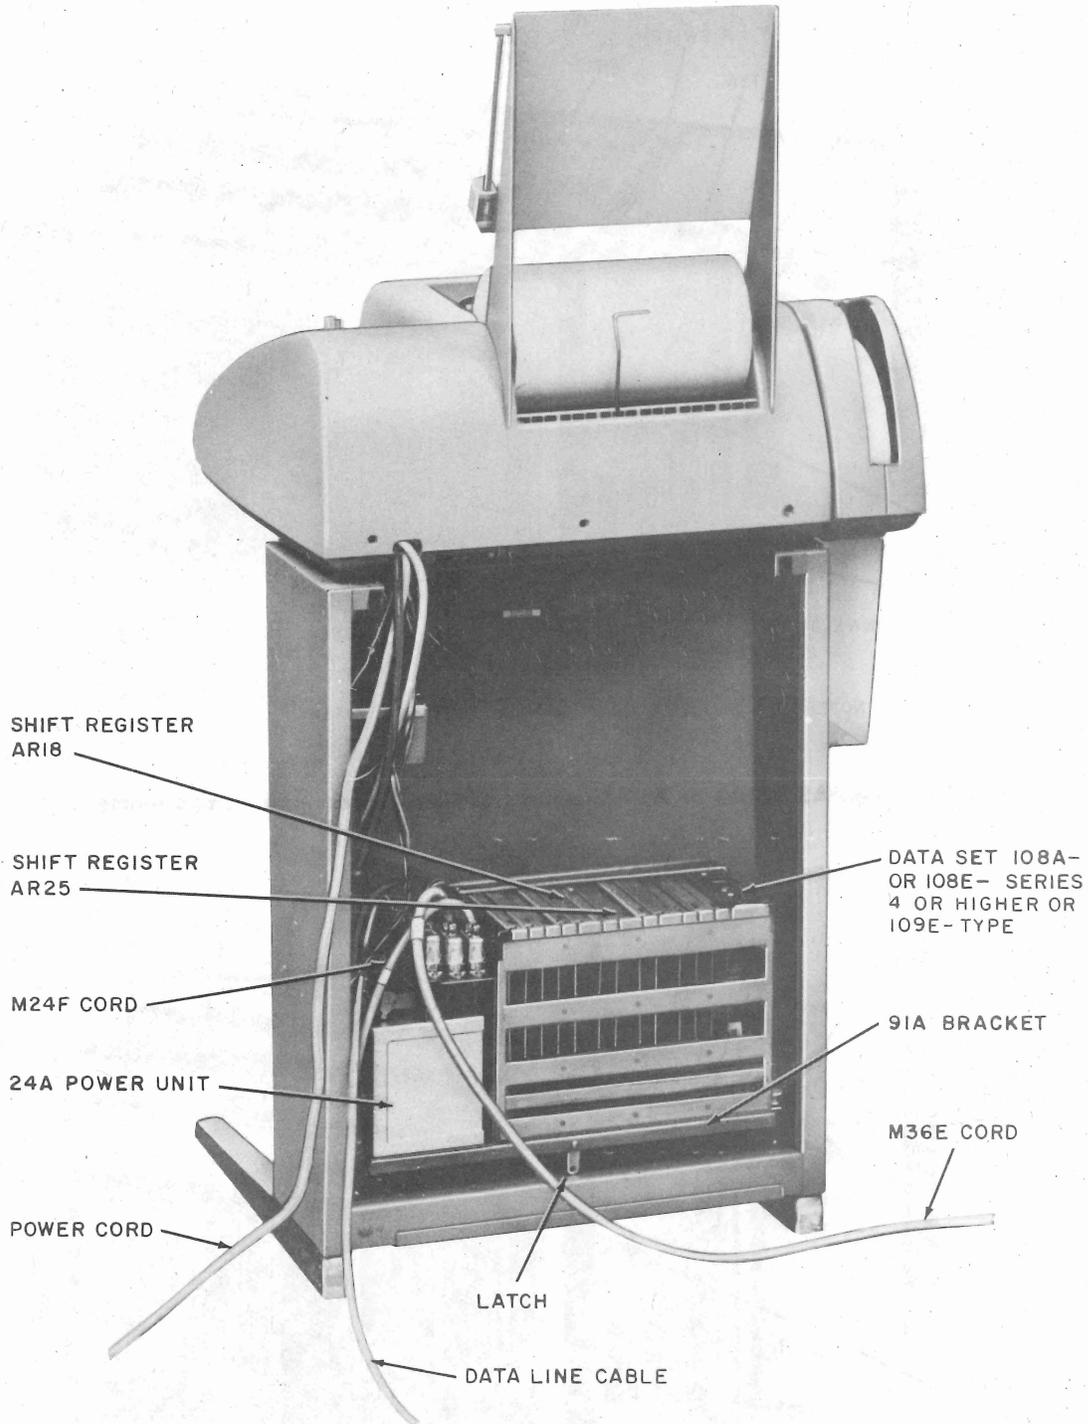

Fig. 3 →DAS 820A-Type—Location in 33-Type TTY (33 ASR Illustrated)←
- (1) Rotate latch counterclockwise (Fig. 3). This allows DAS 820A2 or 820A6 to pivot on the 91A bracket.